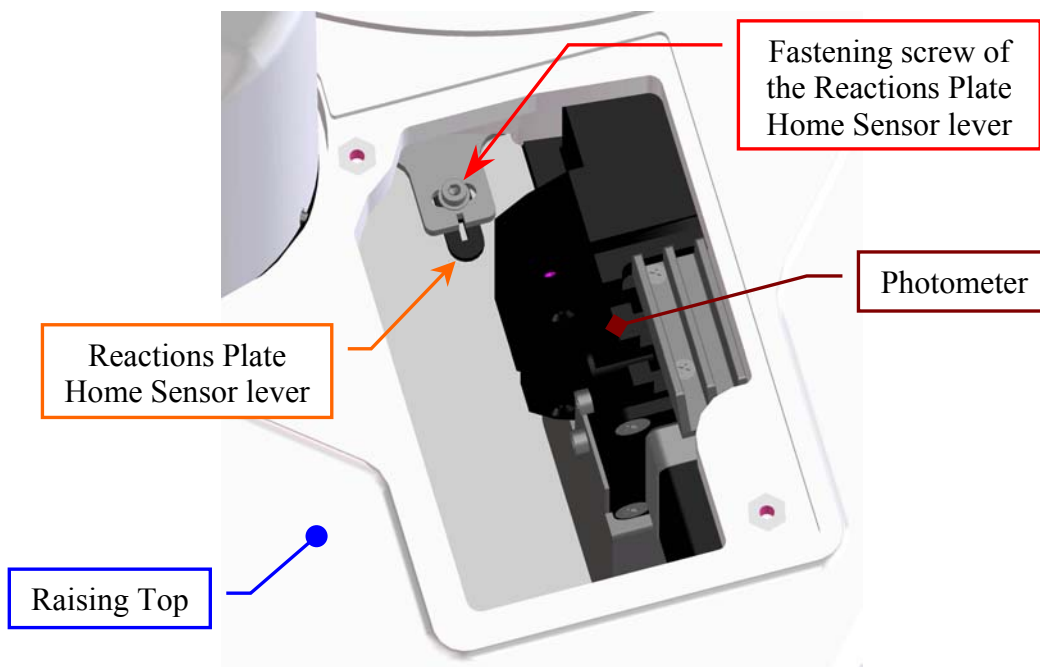

Fig. 108 – Fastening screw of the Reactions Plate Home Sensor lever
- loosen the fastening screw of the Reactions Plate Home Sensor lever (**Fig. 108**);
- tighten the fastening screw of the Reactions Plate Home Sensor lever (**Fig. 108**);